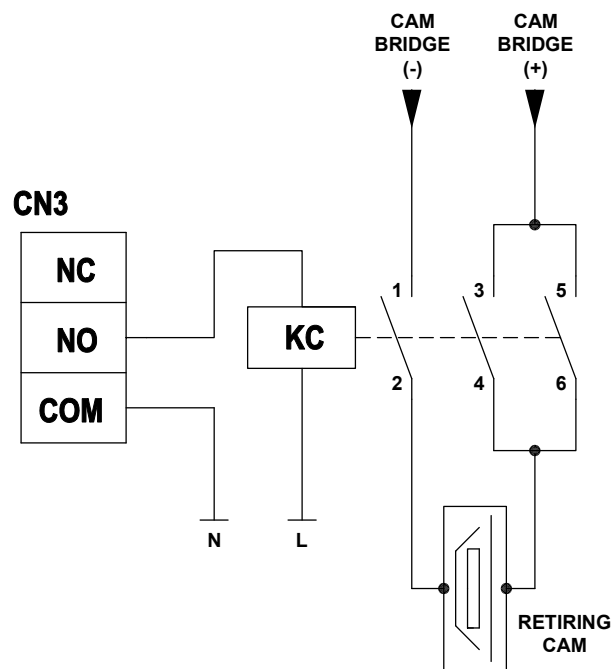

Figure 16.0 - Manual Door Connections
The Manual Door operating terminals are wired and connected as illustrated in Figure 16.0.
- For Manual Doors operating through a Retiring CAM, the external CAM contactor is connected to the XC-DUP series as illustrated in Figure 16.0.
- The Retiring CAM is operated by the DC voltage of the external bridge through the contactor as illustrated in Figure 16.0.